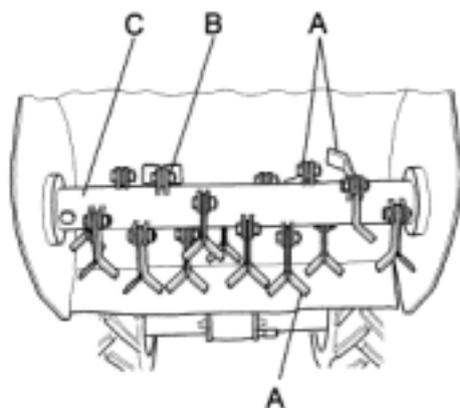

Fig. 10
The flails will be presented as shown in figure 10.
- During work operations if the flails (Fig. 10, ref. A ) strike stones or stumps stop straightaway and make sure that they have not become bent or broken. Damaged flails must be replaced.
- The flail fixing screws and relative nuts ( fig. 10, ref. B) are also subject to wear. Always replace them at the same time as the flails, using bolts and screws of the same strength and type.
- Even the flail rotor holder (fig. 10, ref. C) may cause vibration. If so, it should be replaced.